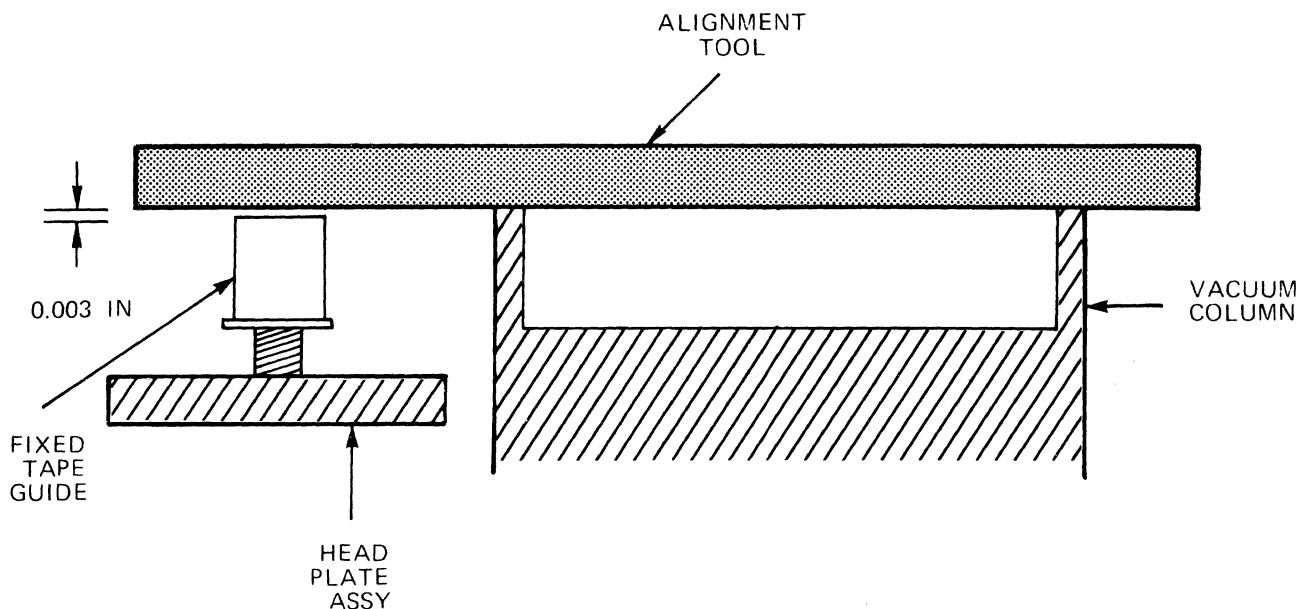

Figure 5-11. Vacuum Machine Fixed Tape Guide Alignment Tool Positioning
- e. Measure the distance between the edge of the tool and the top of the fixed guide with a feeler gauge. Refer to figure 5-11. The fixed tape guide should be .003 to .0035 inches below the flat edge of the alignment tool.